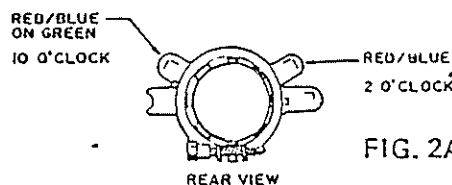
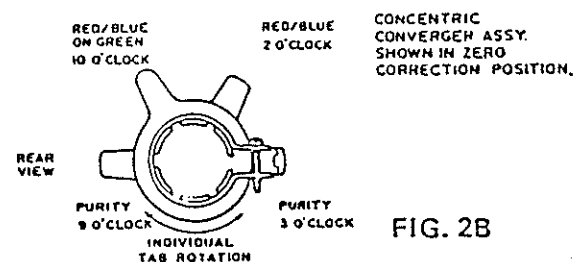

FIG. 2A
FIG. 2B
- 2 On picture tubes with a 22.5 mm neck diameter, set the ring assembly on the CRT neck with the center line of the purity ring-pair over the gap between grids No. 5 and 6. See Fig. 2A [For picture tubes with a 29 mm neck, use the gap between grids No. 3 and 4. Fig. 2B.]